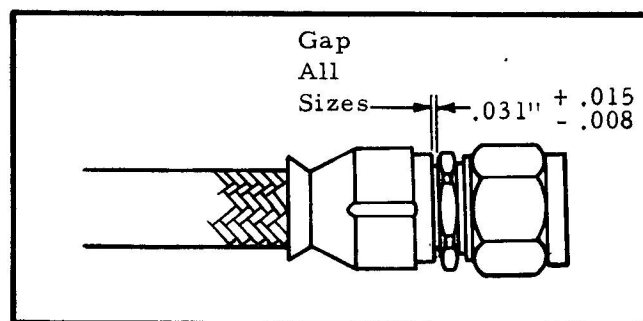

Figure 7-3 Torque Gap
- (c) Retorque to the proper gap, see Figure 7-3.